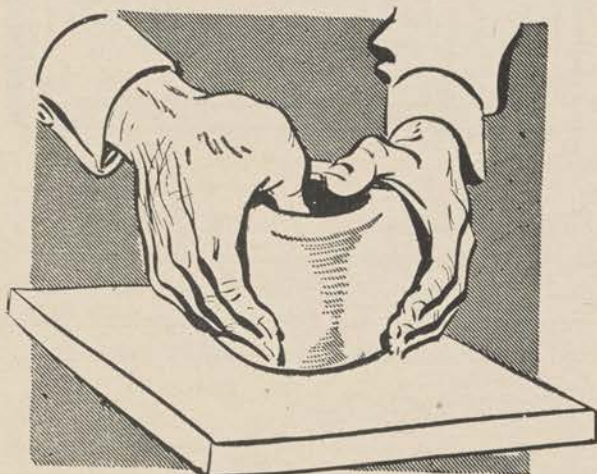

Figure 119.
a. The hand drawn method may be used in forming many small objects. Start with a lump of clay about the size of a tennis ball. It should be well kneaded to get rid of air holes and formed into as evenly spherical a shape as possible. Put the ball on a bat or piece of material that can be easily turned while working. Moisten the right thumb in water and press it into the center of the ball (fig. 119). With the left hand turn the bat on